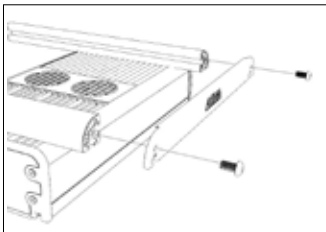

Figure 1: Cross bar end assembly
1. Layout cross bars, and attach the end cap using the supplied M6 x 1.0 screws (*see figure 1*).